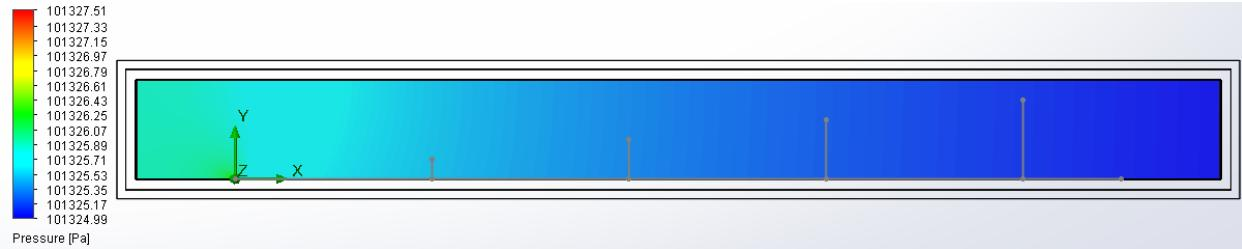
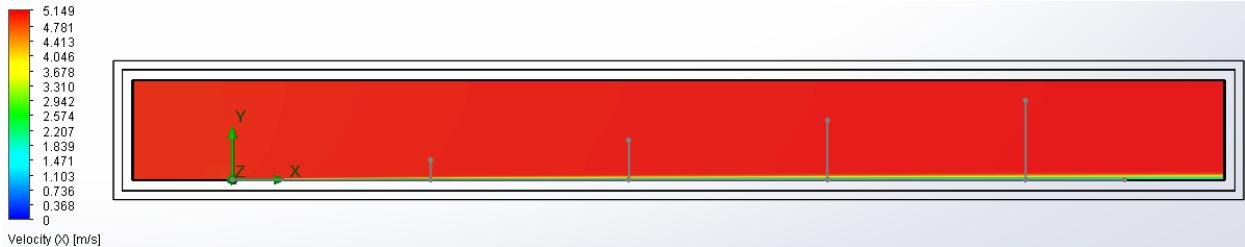

Figure 2.23a) Pressure distribution along the flat plate.
Figure 2.23b) X – Component of Velocity distribution on the flat plate.
23. Right click on Cut Plots in the Flow Simulation analysis tree under Results and select **Insert....** Select the **Front Plane** from the FeatureManager design tree. Slide the **Number of Levels** slide bar to 255. Select **Pressure** from the **Parameter** drop down menu. Click OK to exit the **Cut Plot** window. Figure 2.23a) shows the high pressure region close to the leading edge of the flat plate. Rename the cut plot to **Pressure**. You can get more lighting on the cut plot by selecting **Flow Simulation>>Results>>Display>>Lighting** from the SolidWorks menu. Right click on the **Pressure Cut Plot** in the **Flow Simulation analysis tree** and select **Hide**. Repeat this step but instead choose **Velocity (X)** from the **Parameter** drop down menu. Rename the second cut plot to **Velocity (X)**. Figures 2.23b) and 2.23c) are showing the velocity boundary layer close to the wall.